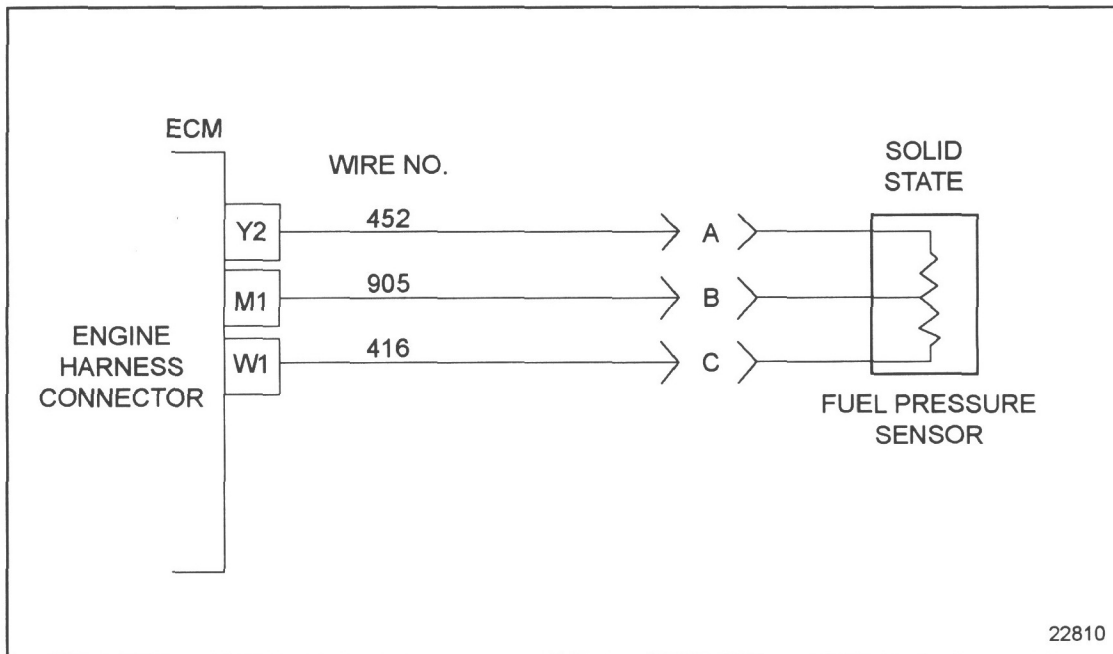

Figure 38-4 Engine Harness Connector to Fuel Pressure Sensor
3. Install a jumper wire between sockets A and C of the FPS harness connector. See Figure 38-4.